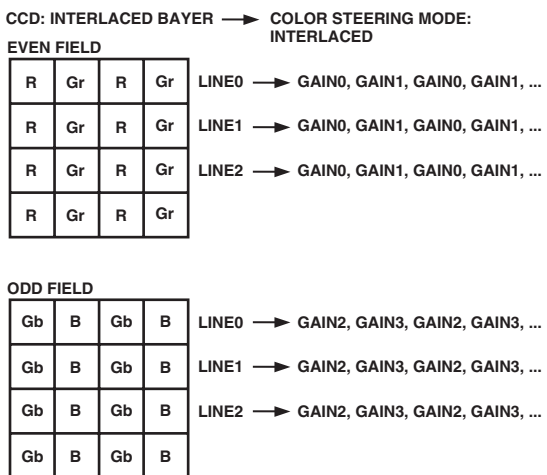
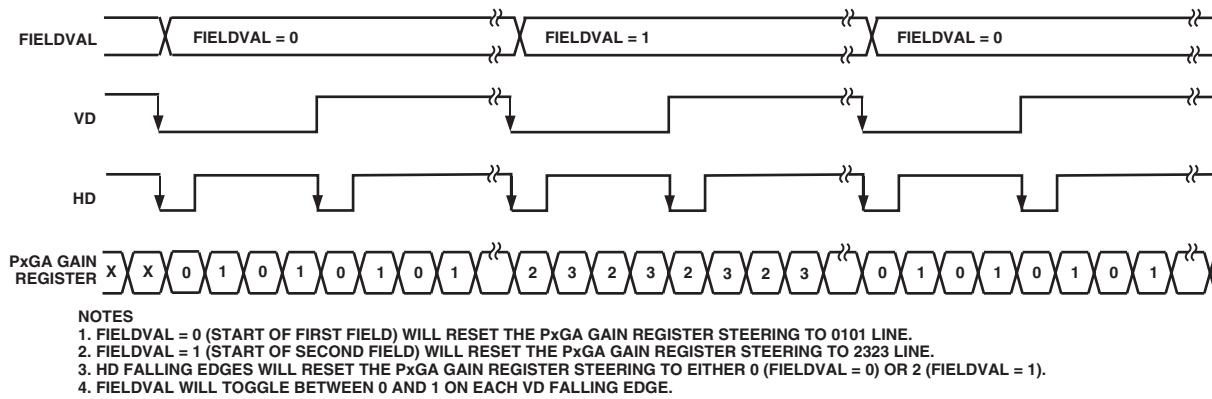

Figure 17b. CCD Color Filter Example—Interlaced Readout
Figure 18b. PxGA Color Steering—Interlaced Mode
The same Bayer pattern can also be interlaced, and the interlaced mode should be used with this type of CCD (see Figure 17b). The color steering performs the proper multiplexing of the R, G, and B gain values (loaded into the PxGA gain registers), and is synchronized by the user with vertical (VD) and horizontal (HD) sync pulses. For timing information, see Figure 18b.